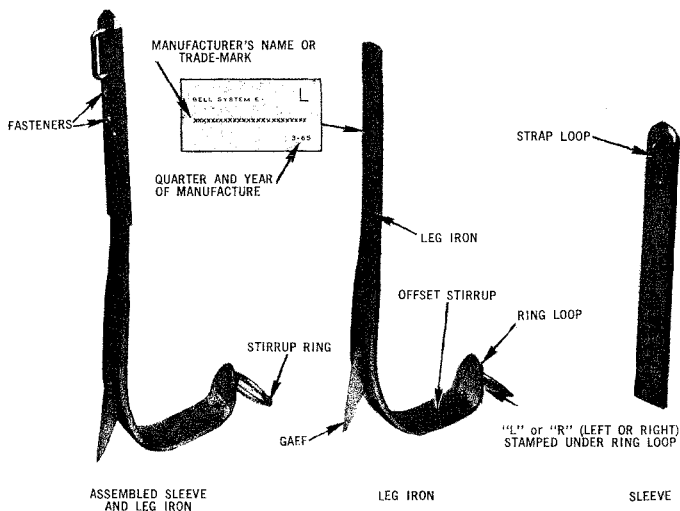
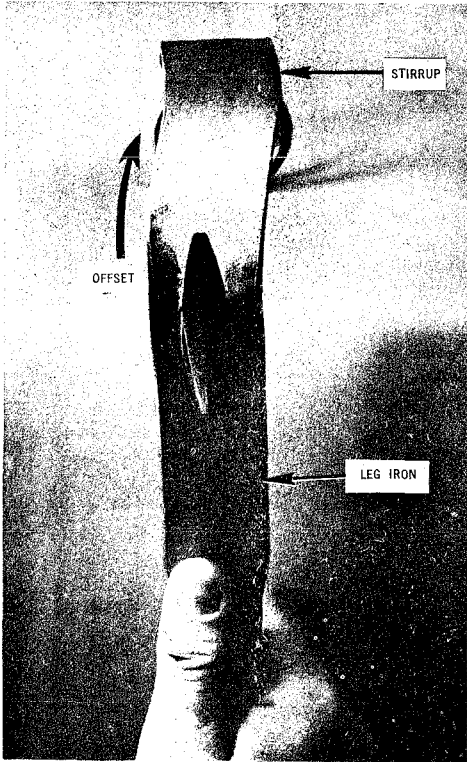

Fig. 1 - E Climber
Fig. 2 – Stirrup Offset "Right"
- 2.01 Adjustable climbers have replaced fixed length climbers. The E Climber, Fig. 1, which supersedes the D climber is changed to use two set screws instead of one set screw and a rivet for attaching the sleeve to the leg iron.
**2.02** Adjustable climbers have offset stirrups, therefore, they are made for the right and left foot and are marked "R" or "L" on the appropriate climber as indicated in Fig. 1. These climbers can be identified as right or left by remembering that the offset of the stirrup is toward the front of foot. Another method is to hold the climber with gaff toward you and pointing up, then noting which direction the stirrup is offset. If the offset is to right, it is a right climber as in Fig. 2; if the offset is to left, it is a left climber.